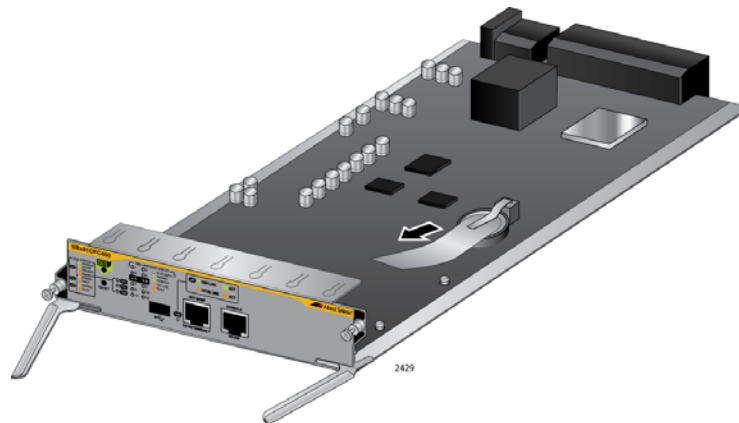

Figure 72. Removing the Battery Insulator
5. Remove the battery insulator tab on the controller card by sliding it out from between the battery and battery clip, as shown in Figure 72.